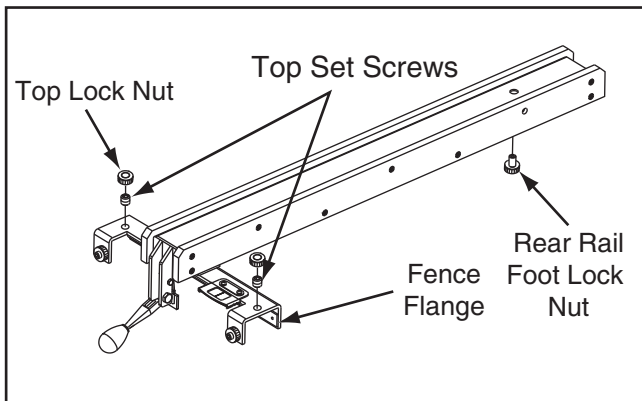

Figure 114. Fence components used to adjust fence height and squareness to table.
6. Loosen the top lock nuts on the fence flange and the lock nut on the rear rail foot, shown in **Figure 114**.
9. Loosen the top lock nuts and adjust the top set screws (see **Figure 114**) to make the fence face 90° to the table, then tighten the lock nuts.